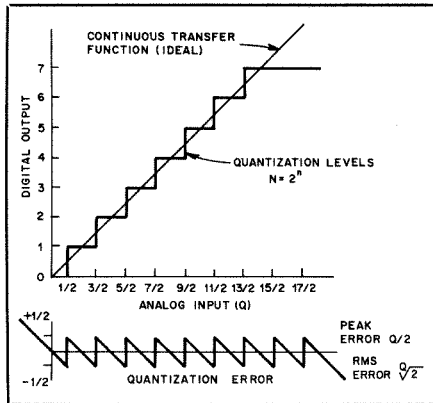

Fig. 7 — Quantization error ( $Q_e$ ) from a successive-approximation ADC is shown.
There is a limit to how closely an ADC can approximate a given voltage level. Fig. 7 shows why. The ADC approximates the linear curve by a series of stair-step values called quantization levels (Q). Depending on when the actual sample is taken, the sample can be in error ( $Q_e$ ). I'll demonstrate the method for determining